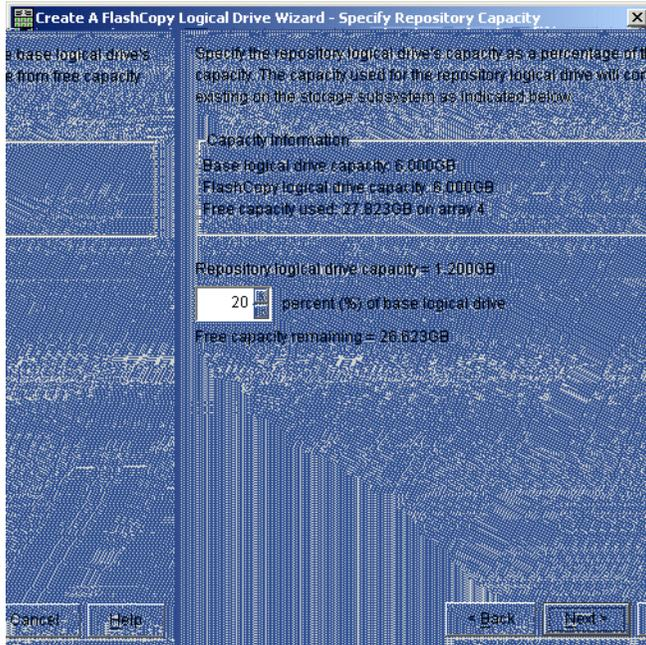

Figure B-9 Create A FlashCopy Logical Drive Wizard - Specify Repository Capacity window
- The Create A FlashCopy Logical Drive Wizard - Specify Repository Capacity window is displayed (see Figure B-9):